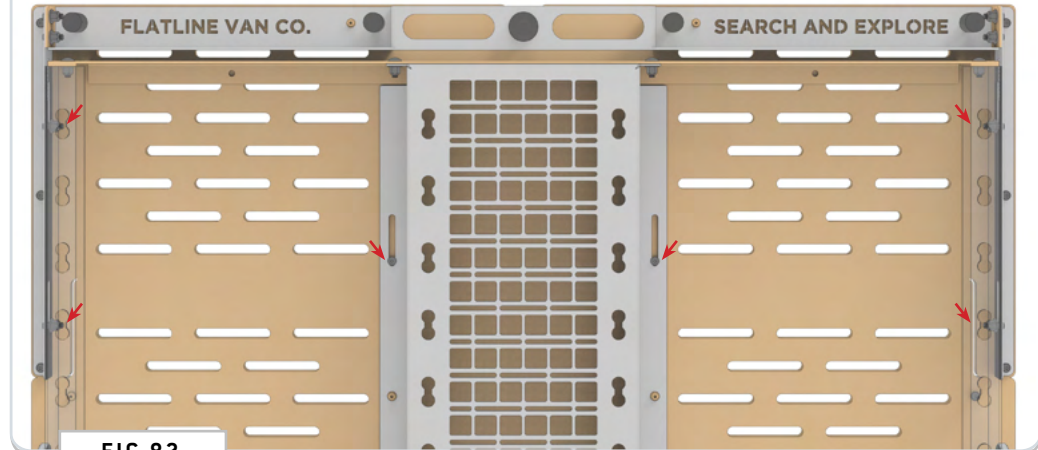
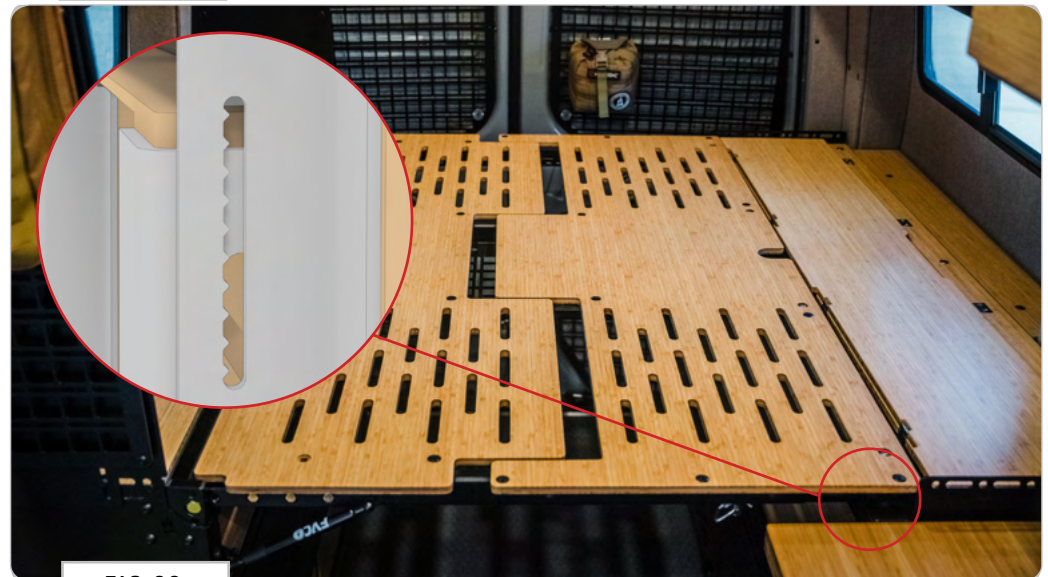

FIG 82
FIG 83
**6.3 Adjust Bed Frame:** Loosen the (2) 1/4-20 x 0.75 Flanged Button Head Screws and the (4) 3/8-16 Square Neck Carriage Bolts in the locations shown in FIG 82 and adjust the **Bed Frame** until it has approximately 1/8"-1/4" of clearance along the **Landing Flange** of the **Table Side Cabinet**. There are **Adjustment Teeth Cutouts** along both sides of the **Bed Frame** to help with alignment (**FIG 83**). Tighten up the screws once you are satisfied with the fitment.